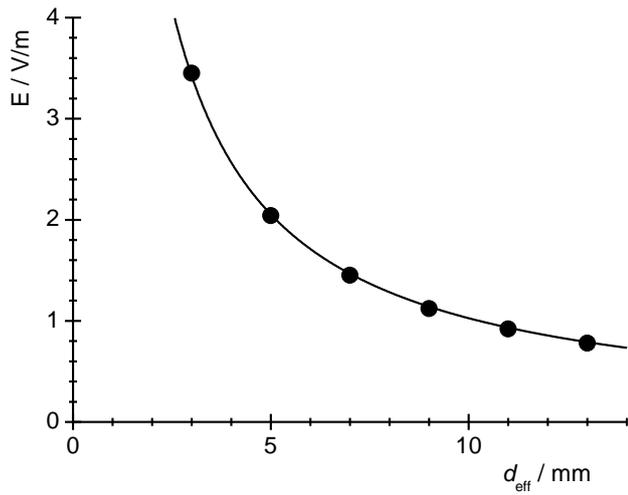
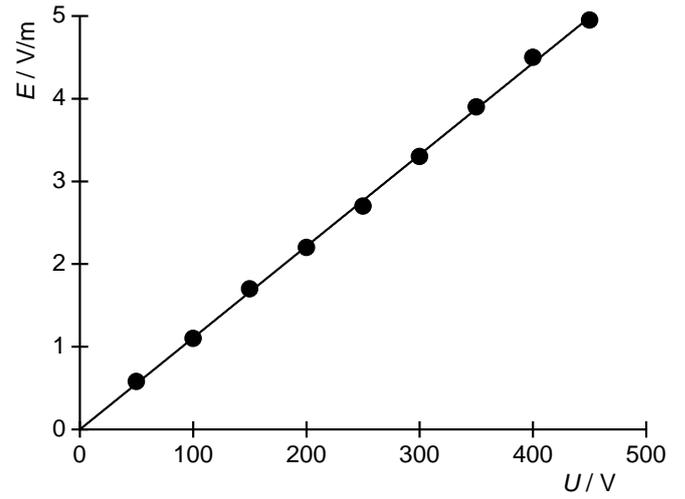

Fig. 3: Electric field within plate capacitor as a function of plate separation for $U = 100 \text{ V}$.
Fig. 4: Electric field within plate capacitor as a function of applied voltage U for $d_{\text{eff}} = 10 \text{ mm}$.
- Plot the electric field strengths E you have measured against the effective plate separations d_{eff} (Table 2) and the applied voltage U (Table 3) (see Figs. 3, 4).
- The hyperbolic relationship between field strength and effective plate separation (Fig. 3) and the linear dependence on applied voltage (Fig. 4) as predicted by equation (2) are verified by these graphs.